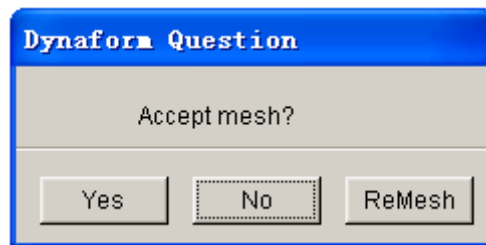

Figure 6.5.18 DYNAFORM QUESTION dialog box
- Select OK to accept the selected line. The trimmed result is displayed along with a DYNAFORM QUESTION box as illustrated in Figure 6.5.18.